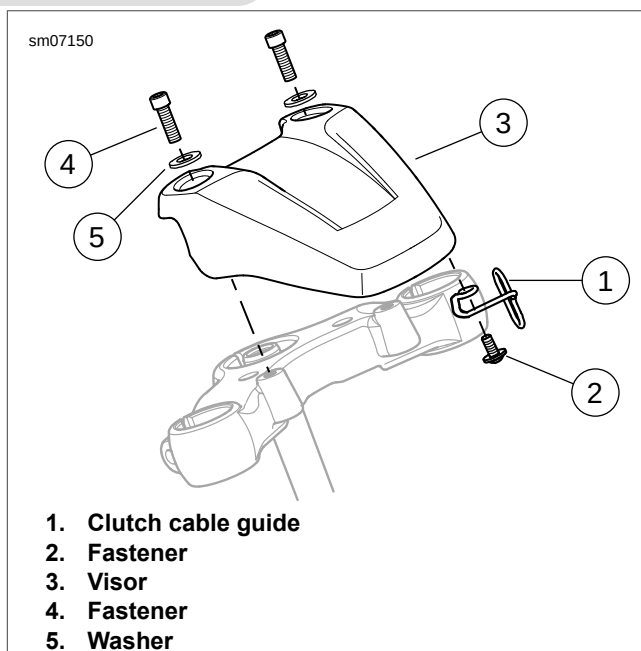

Figure 6-40. Headlamp Visor: XL 1200C/C ANV/CP/CA/CB
1. See Figure 6-40. Install the clutch cable guide (1) with fastener (2). Tighten to 45-65 in-lbs (4.0-7.3 Nm).
2. Install the headlamp visor (3) with fasteners (4) and washers (5). Tighten to 120-192 in-lbs (14-22 Nm).